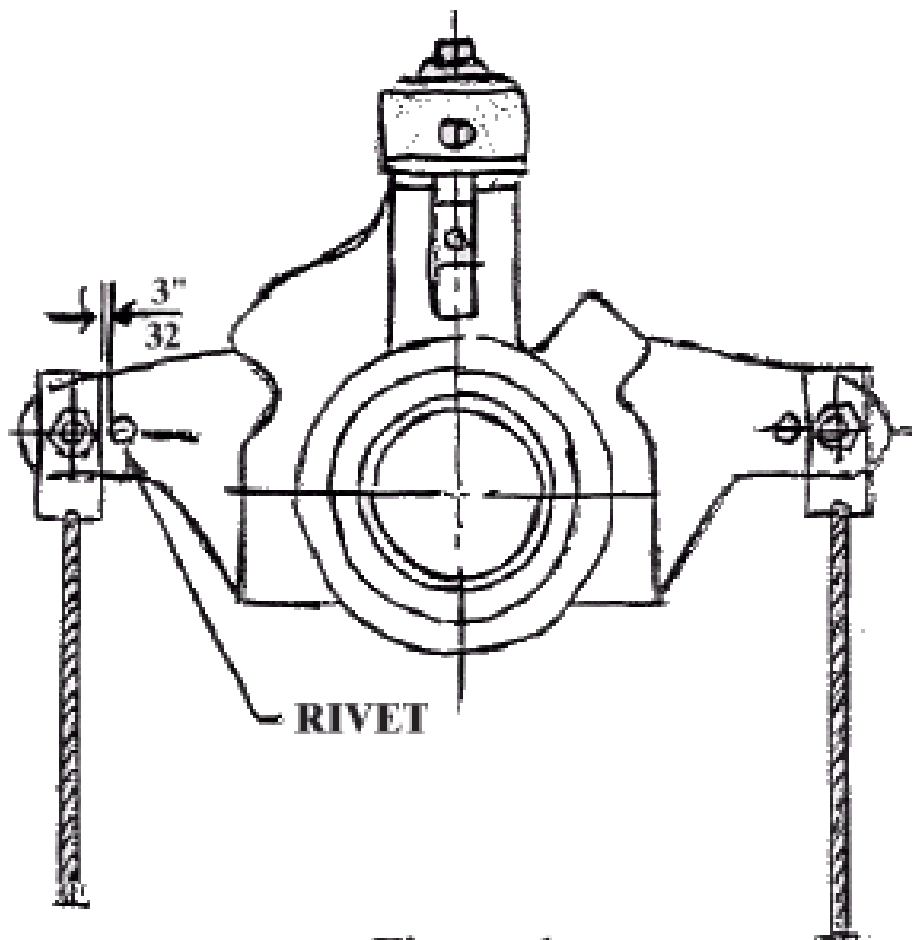

Figure 1
1. Make an overlay of the sketch of the horn (Figure 1) as shown on the reverse side of this supplement
5. Fit the horns to the arms as shown in Figure 1. Clamp into place. Drill out corresponding holes for attachment in the horn, using the arms as a template.